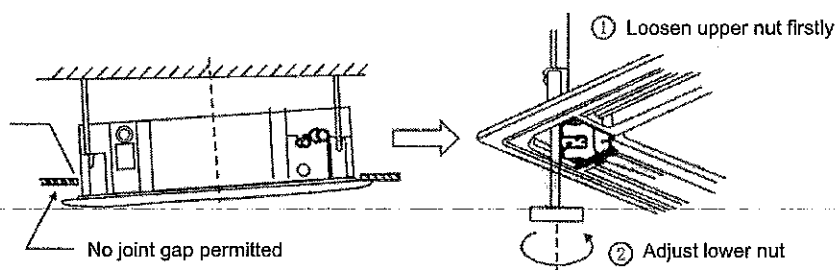

Figure 16
- If there exists gap between ceiling board and front panel after screws are retained, the height of indoor unit must be re-adjusted (see left side in Figure 16);
- If indoor unit's adjustment for levelness and drain pipe are not affected, the height of indoor unit can be adjusted through the openings at 4 corners of the front panel (see right side in Figure 16);